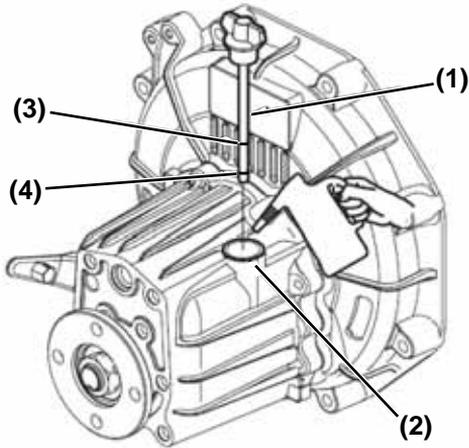

Figure 7
1. Make sure the engine is off. Make sure the engine is as level as possible and wipe area clean around the marine gear filler port **(Figure 7, (2))**.
3. Remove the dipstick **(Figure 7, (1))** and wipe with a clean cloth.
5. Remove the dipstick. The oil level should be between the upper **(Figure 7, (3))** and lower **(Figure 7, (4))** lines on the dipstick.
3. Fill with oil to the upper limit on the dipstick **(Figure 7, (3))**. See *Marine Gear Oil Specifications* on page 29. **NOTICE: NEVER overfill the marine gear with oil.**